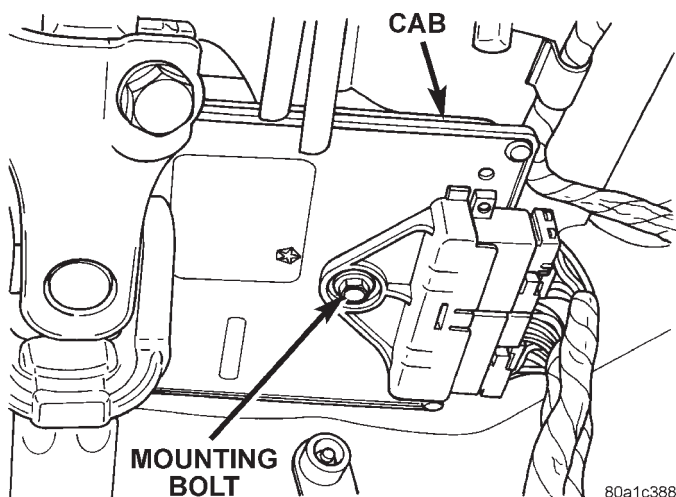

Fig. 6 Controller Antilock Brakes
- (1) Remove negative battery terminal.
- (2) Remove the harness connector from the CAB located underneath the instrument panel (Fig. 6).
- (3) Remove mounting bolt and remove the CAB.